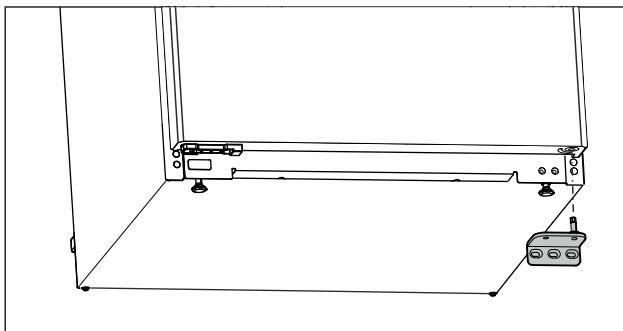

Fig. 7
- ▶ Remove the swap bearing block downwards. (see Fig. 7)